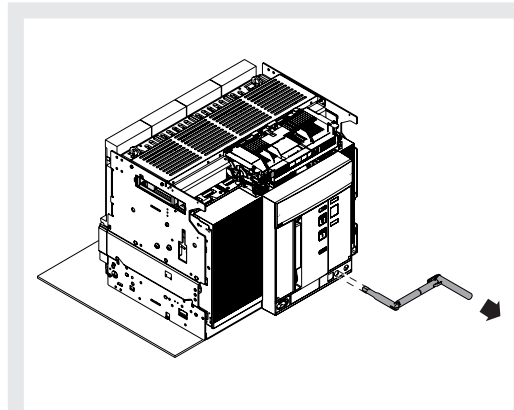

Figure 46
12. Extract the crank. See Figure 46.